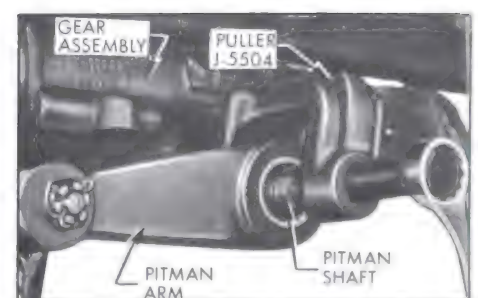

Figure 8-28—Removing Pitman Arm from Pitman Shaft
4. Jack up car and remove the pitman shaft nut, then remove the pitman arm using Puller J-5504. See Figure 8-28.
1. Remove pitman arm from pitman shaft. See Figure 8-28.